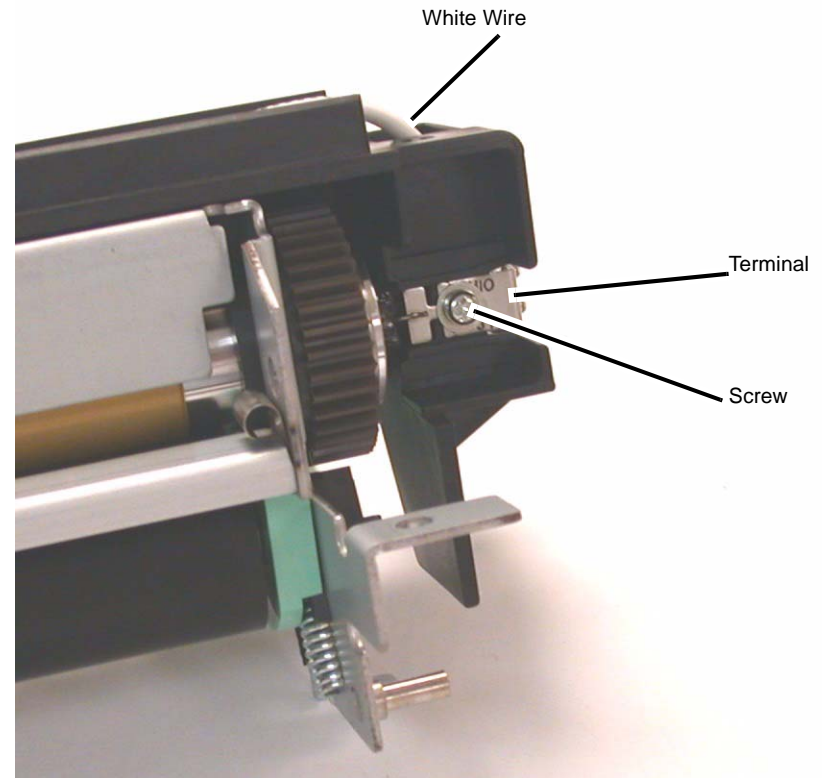

Figure 3 Disconnecting the ACN side of the Fuser Lamp
4. Disconnect the ACN side of the Fuser Lamp (Figure 3).